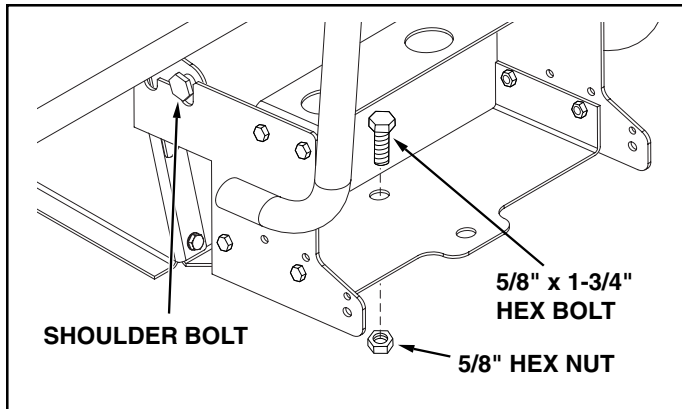

FIGURE 5
10. Hook the base assembly under the shoulder bolts in the adapter brackets using the second notch in the base assembly. Align the hole in the bottom of the base assembly with the hole in the tractor drawbar. Insert the 5/8" x 1-3/4" hex bolt and secure it with the 5/8" hex nut. See figure 5.